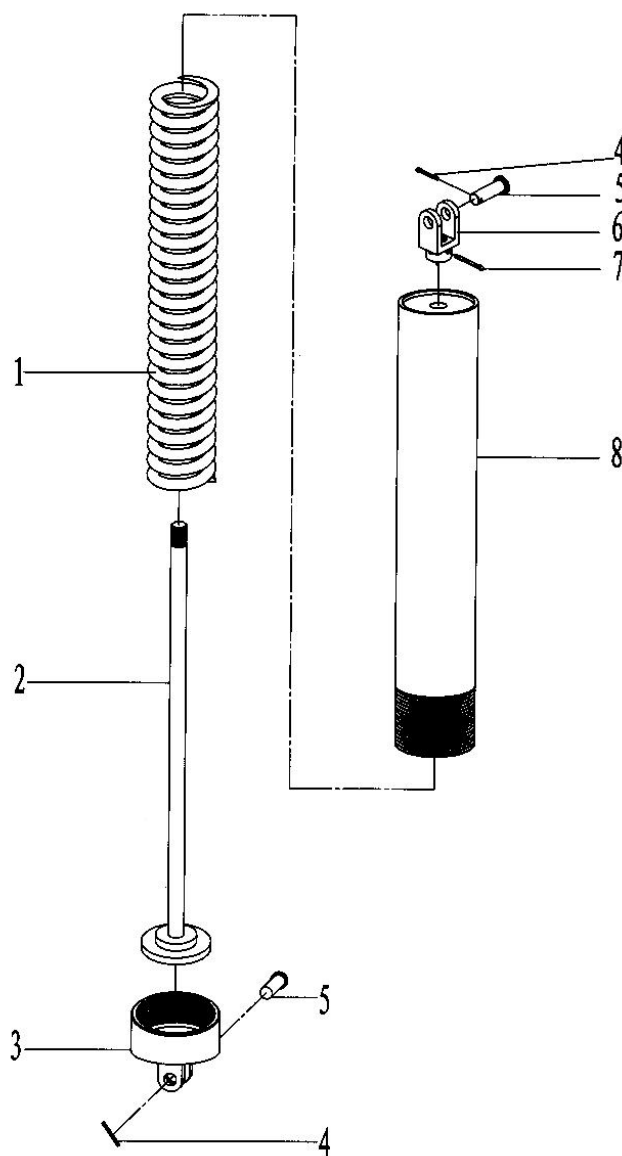

Fig. 19
7.1.12 Spring lifter assembly(Fig.19, Table.14)